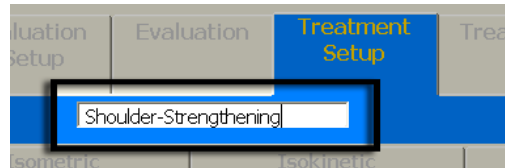

Figure 5e
Note: This name can be edited at any time by touching the “Modify” button (Figure 5d) and placing the cursor in the white text field at the top just underneath the *Treatment Setup* tab (Figure 5e). Use the keyboard to change the template name and hit “Save.”
- c. Notice that the template name is displayed in the text field directly underneath the *Treatment Setup* tab (Figure 5e).
- e. This will make all fields active, including the template name text field (Figure 5e). If you want to rename the template, click inside the white text field to place your cursor.
This will make all fields active, including the template name text field (Figure 5e). If you want to rename the template, click inside the white text field to place your cursor. Clear undesired text using the delete/backspace keys on your keyboard and type in your new name.
- d. This will make all fields active, including the template name text field (Figure 5e). If you want to rename the template, click inside the white text field to place your